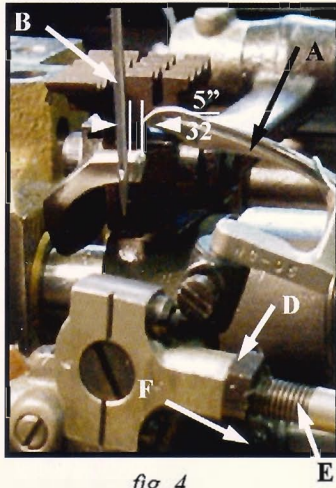

fig. 4
With the zig-zag motion at the end of its stroke to the right, set the looper (A, *fig 4*) so the distance from the center of the needle (B) to the point of the looper is $5/32$ inch, when the looper is at its farthest position to the right. Looper gauge No. 21225-5/32 (C) can be used advantageously in making this adjustment. If the adjustment is needed, loosen nut (D) (it has a left hand thread) and also loosen nut on right end of connecting rod (E), turn connecting rod forward or backward to obtain $3/32$ inch and retighten both nuts.
The looper is set correctly in line with the feed when there is .003 inch space between its point (A, *fig 5*) and the rear of the needle (B) as the former is ascending on the right side. If adjustment is needed, loosen screw (F, *fig 4*) and move the looper toward or away from needle as required and retighten screw when .003 inch space is obtained.